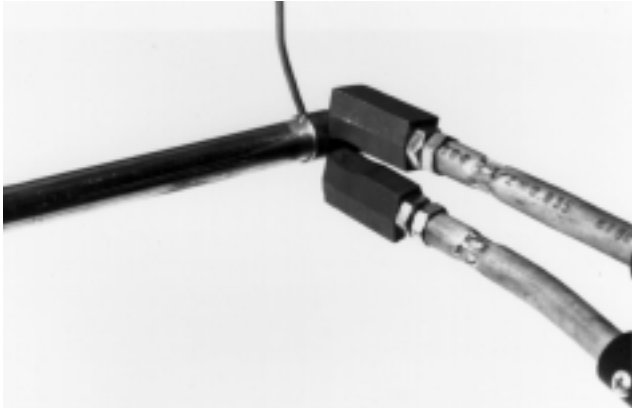

Figure 7 – Soldering with Carbon Tips Contacting Fitting
6. If the joint to be soldered is in a difficult to reach location, it is not necessary to clamp the carbon tips around the tube. The carbon tips only have to be in contact with the fitting (*Figure 7*).